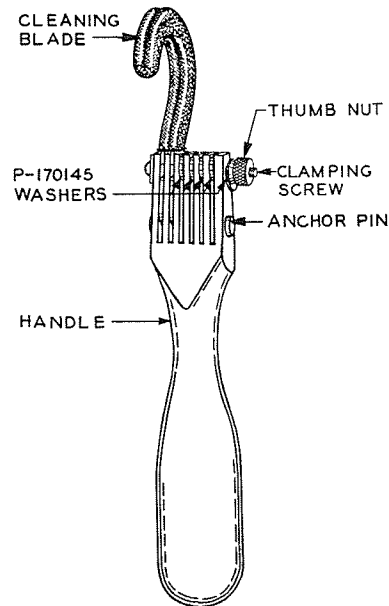

Fig. 9 - 517B Bank Cleaner Arranged for Cleaning Top Level of Banks on 198-Type Switches
(4) For cleaning banks on 198-type switches, all but two blades of the 517B cleaner are removed as shown in Fig. 9. P-170145 washers supplied with the cleaner are then inserted in the spaces left blank by the removed blades, permitting the remaining blades to be clamped in the handle of the cleaner.